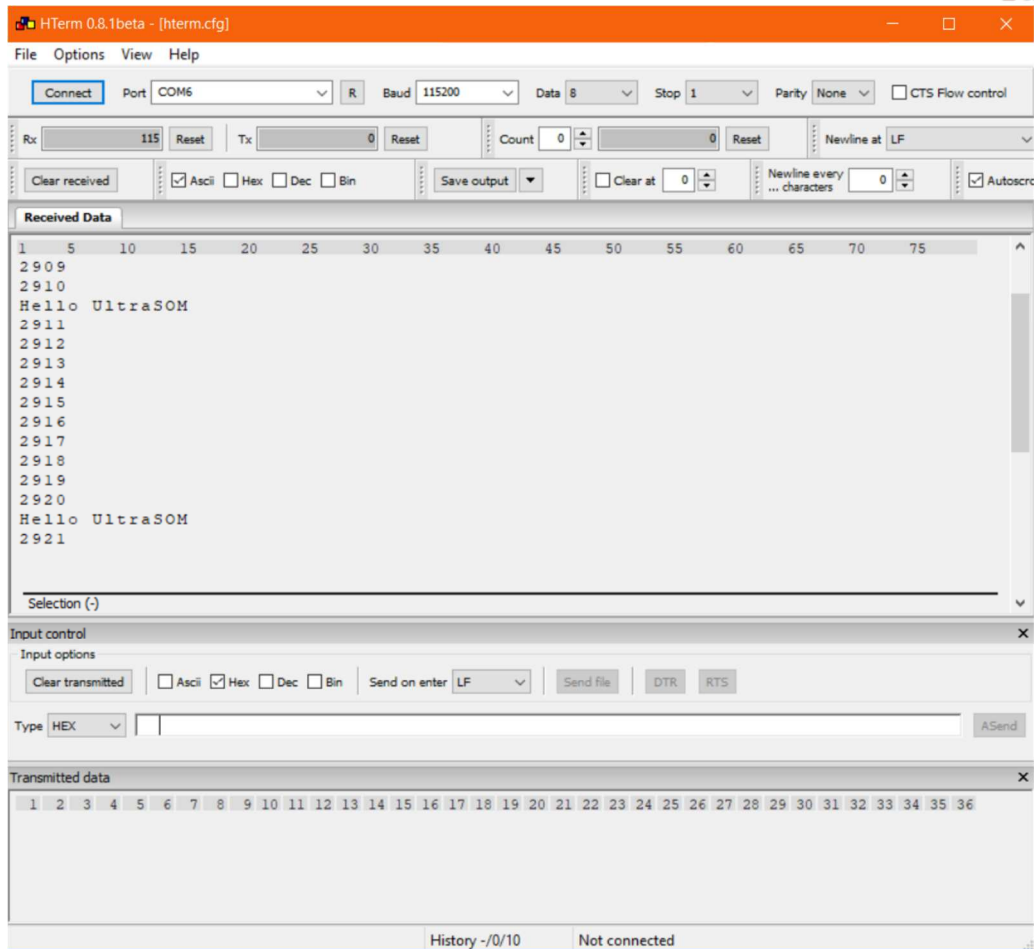

Figure 2.4: Counter and text output on a terminal program of connected PC
2. In a terminal program on a PC connected to a USB UART, a counter is output every 1 s with each new count value (figure 2.4). Every 10 s, "Hello UltraSOM" is also output in parallel with the rapidly flashing LEDs.